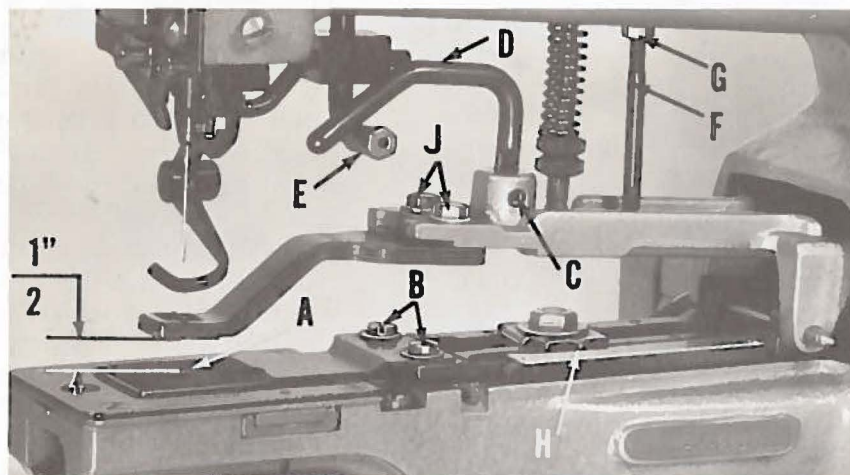
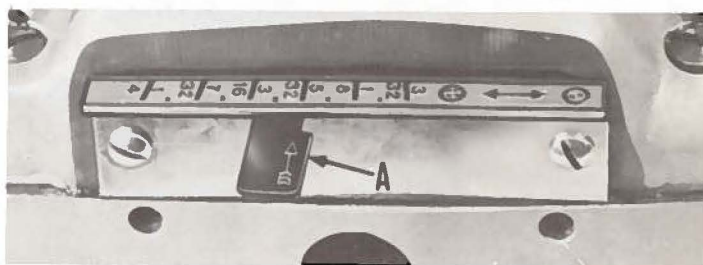

Fig. 6
Fig. 9
Make sure that the feed plate (A, Fig. 6) is set so that it does not interfere with the needle at any point of its travel.
With the machine in stop position, the normal distance between the bottom of the tacking clamp to the top of the feed plate should be 1/2 inch (Fig. 6). To make this adjustment, loosen set screw (C) and raise or lower rod (D).
Take machine out of stop position and turn pulley in operating direction until tacking clamp is in its furthest position to the rear. At this point, there must be clearance between the tacking clamp lifting rod (D, Fig. 6) and the tacking clamp lifting roller (E). Adjustment is made by loosening screw (C) and moving rod (D) up. This will affect the height of the tacking clamp in relation to the feed plate as previously described, but for the normal setting of 1/2 inch, no interference between lifting rod and roller will occur.
Return the machine to stop position and check the position of the tacking clamp stop pin (F, Fig. 6). Its purpose is to prevent overthrow of the tacking clamp so that the needle will not strike any part of the tacking clamp. Insufficient clearance between the stop pin and the tacking clamp holder will cause the machine to re-cycle. Height of stop pin (F) can be adjusted after loosening nut (G). When correct height has been obtained, tighten nut (G) against bed arm securely.
Accurately measure the distance between the holes of the tack and set the pivot indicator (H, Fig. 6) and spring indicator (A, Fig. 9) to the graduations corresponding to the distance between the holes in the tack.
Take the machine out of stop position, turn slowly by hand and observe that the needle enters the tack and clears the cutting knife of the clamp. Equal distance should be maintained from the needle holes to the cutting knife when the needle enters in front of and behind the cutting knife. The tacking clamp may have to be shifted to obtain this condition. Loosen screws (J, Fig. 6) to make this adjustment..... retighten screws.